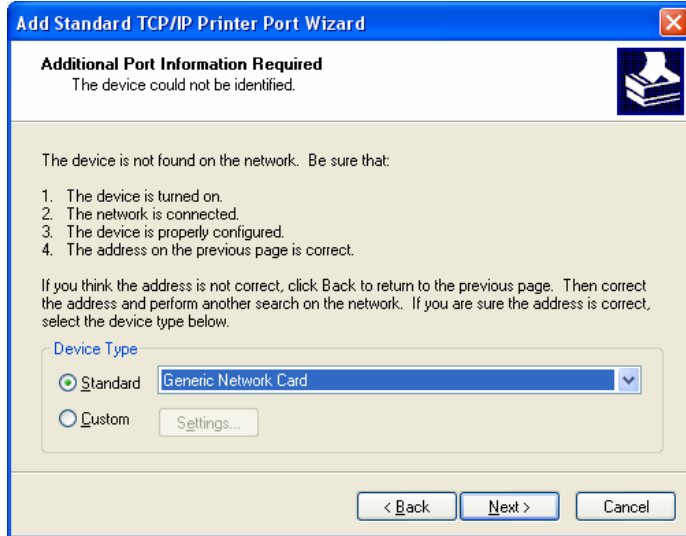

Figure 5.5.5
- 5) Fill with “printer name or IP Address” in corresponding editing column, of which the content is same with self-test page of printer, and then click “Next” button as shown in Figure 5.5.5;